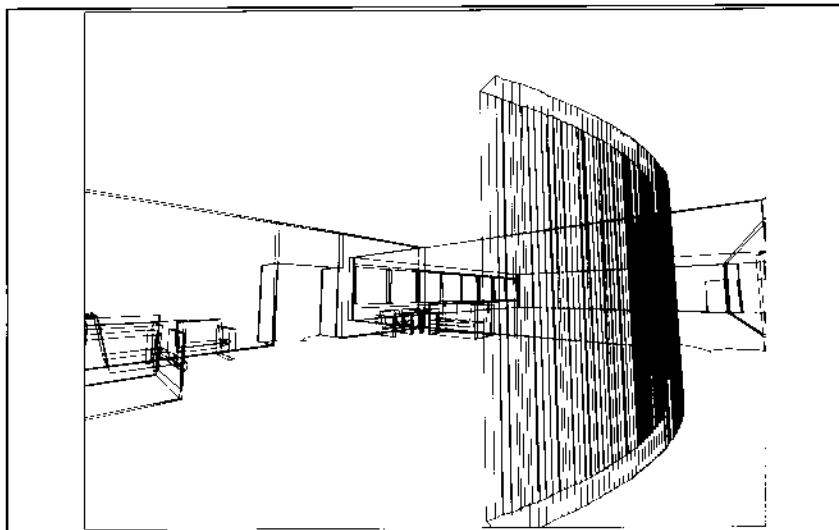

Figure 10.
4. After the new perspective view is generated as shown in Figure 10, a slide show can be made moving between the camera and the target points.